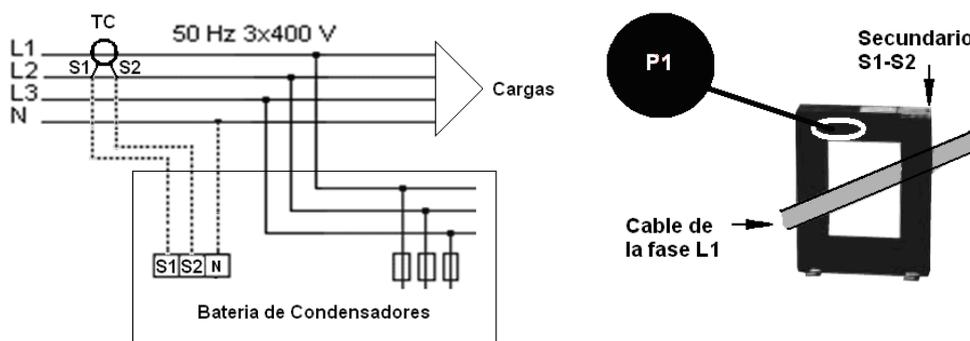

Fig. 5-3 .- Installation of the current transformer (CT) (external)
5.3.5 Connecting the current transformer (CT)
<p>A current transformer (CT) that is external to the bank must be installed to measuring the total load current plus the bank (see Fig. 5-3).</p> <p>The standard transformer has a nominal output of 5 A at the secondary winding. It is recommended to connect the CT to phase L1 in the direction of the current flow from P1 to P2 (see Fig. 5-3) and connect the secondary winding (terminals S1, S2) to the terminals with the same name on the bank (see Fig. 5-3). Avoid current flow through the CT primary winding prior to connecting it to terminals S1 S2 of the bank. If the CT must be installed while recharging the installation, short-circuit S1 and S2 as long as they are not connected to the bank.</p>